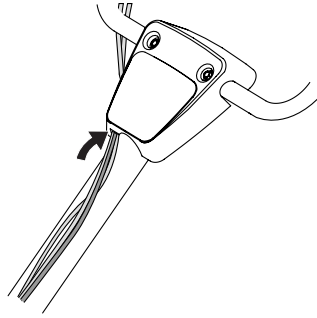

Figure 5
- Slide the emergency stop control switch wire through the opening on the bottom right side of the handle panel, where clutch cables were previously routed. See Figure 5.